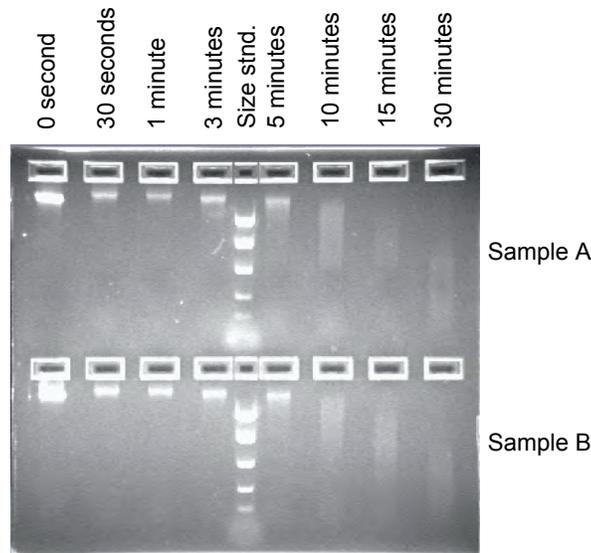

Figure 11 Agarose gel stained with ethidium bromide showing two samples of human gDNA subjected to heating at 99°C for 0 to 30 minutes.
- Run an agarose gel to determine if your DNA is degraded. Look for a tight band of high molecular weight; smearing indicates degraded DNA. Figure 11 illustrates DNA degraded by heat. If the DNA is substantially degraded, use more caution in interpreting your results. If possible, consider repeating the assay using freshly prepared genomic DNA samples.